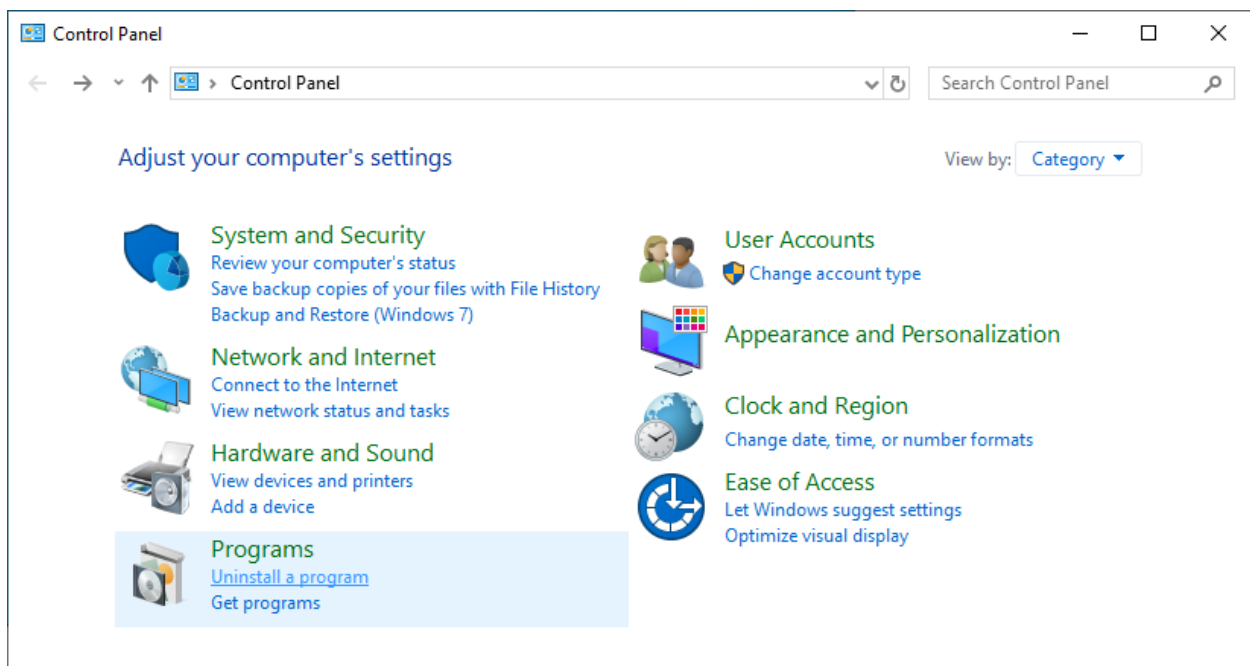

Figure 2-7: Windows Control Panel
- 2) Select and launch *Uninstall a program* as shown in Figure 2-7.